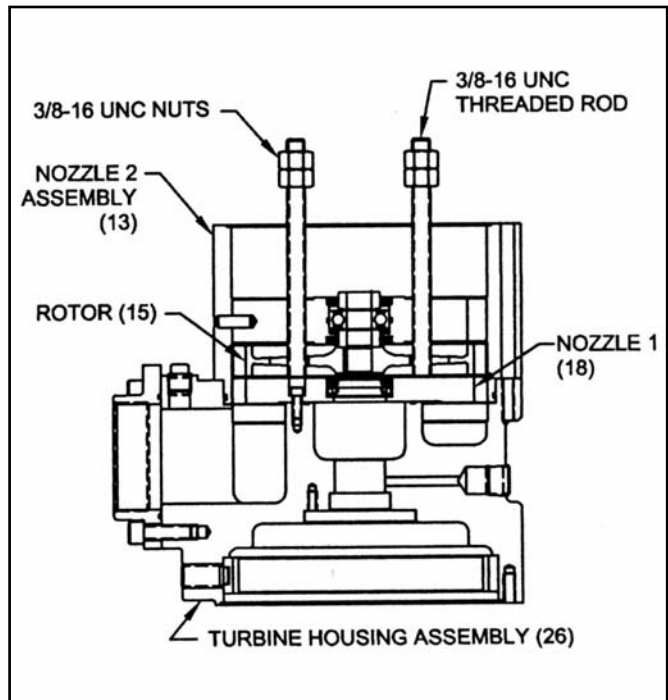

Figure 15. Nozzle 2 Removal
Separate the stage 2 nozzle assembly (13) from the turbine assembly (26) by firmly holding the turbine assembly, while tapping nozzle 2 with a mallet. If nozzle 2 is too tight, it can be removed by installing two threaded screws into nozzle 2 and using them as jacks to separate nozzle 2 from the turbine assembly. Refer to Figure 15.